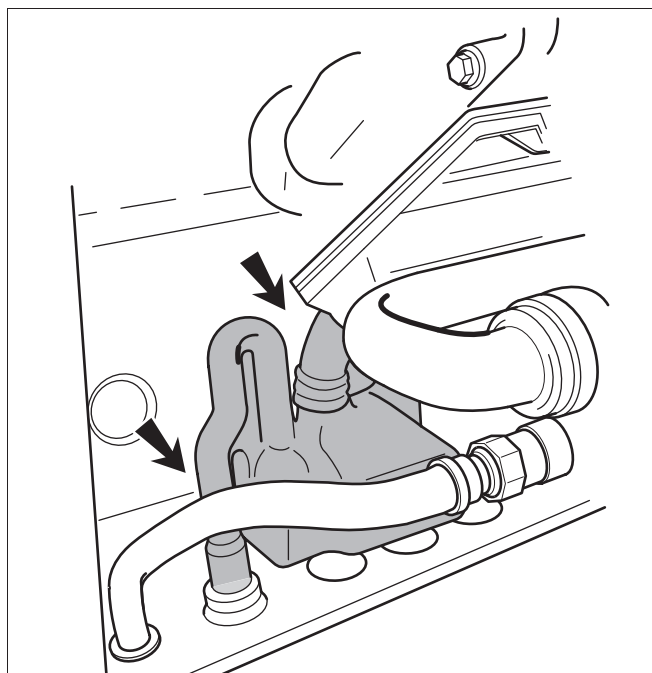

Fig. 32 Filling water into the condensate trap
- Remove the condensate trap (see fig. 32) by disconnecting the connection to the heat exchanger and the connection to the condensate bypass pipe.